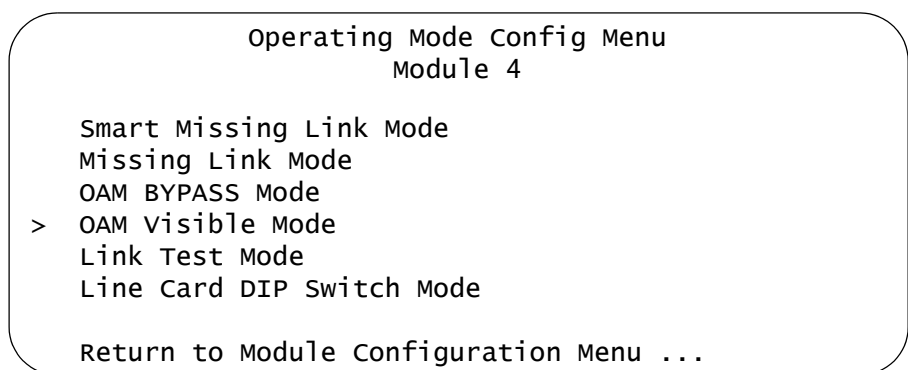

Figure 57. Operating Mode Config Menu
3. From the Module Configuration Menu, select **Configure Operating Mode** to display the Operating Mode Config Menu, shown in Figure 57. The menu lists the available operating modes for the line card. The AT-CV Media Converter Line Cards do not support the OAM bypass and OAM visible modes.